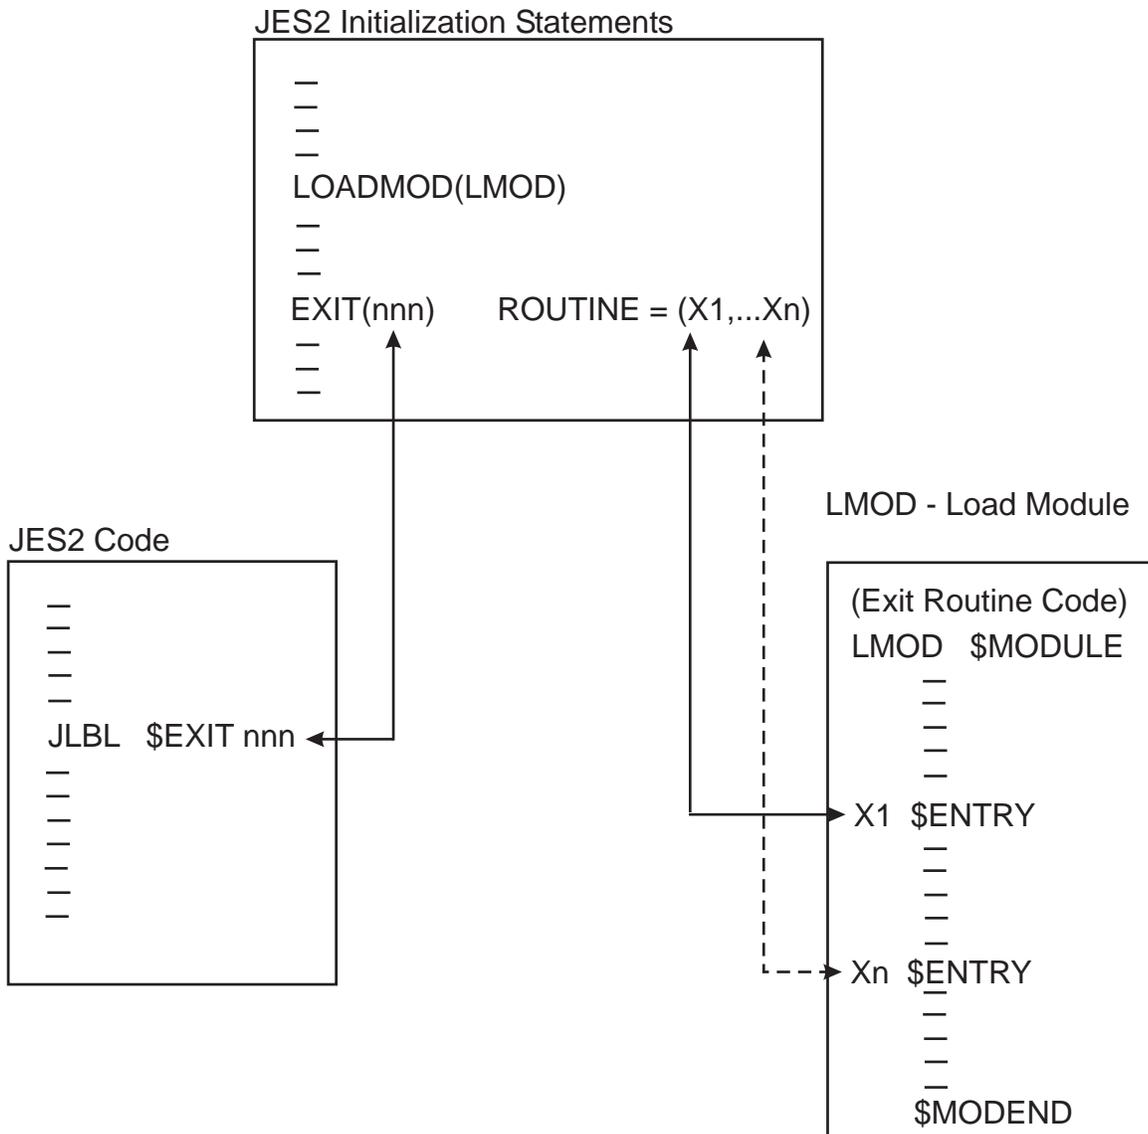

Figure 2. A JES2 Exit
An exit point is defined by the \$EXIT macro and, as illustrated in Figure 2, is the exact location in JES2 code where JES2 can pass control to your *exit routine* (that is, your installation-written code). The JES2 exit, identified by the “exit-id code” of nnn, is defined by one exit point at label JLBL in the JES2 code. It is at JLBL in JES2 processing that JES2 passes control to your exit routine.
To use the exit facility you perform the following steps, as illustrated in Figure 2.
1. Package your code into one or more exit routines, identifying each exit routine with an entry point name. (In Figure 2 there is a series of exit routines noted as entry points X1...Xn.) Then include the exit routine in a load module. In this case LMOD is the load module containing the exit routine.